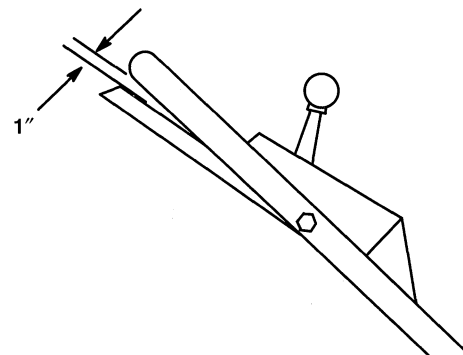

Figure 21
3. CHECK ADJUSTMENT—Slowly pull mower backward while control bar is gradually moved toward handle. Adjustment is correct when rear wheels stop turning and control bar is about one inch from handle (Fig. 21).